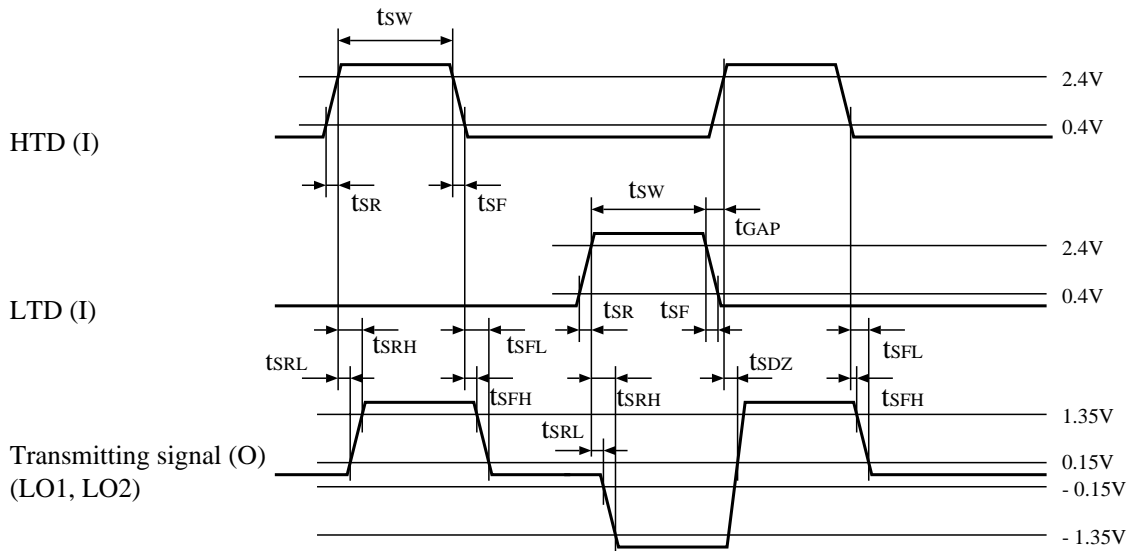

Figure 5.2: Driver Timing
**Note 2:** Figure 5.2 shows the driver timing under the condition that TDR = "High".